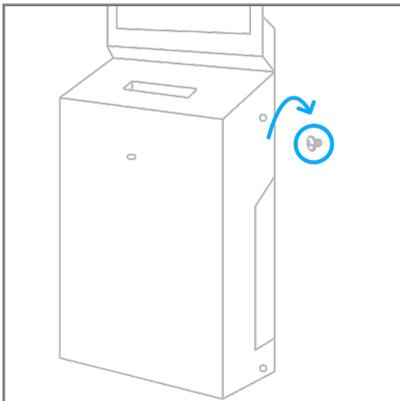

Figure 13.
Step 3: Carefully hang the Swift UV on the two upper screws taking care to align them with the two mounting points on the back of the Swift UV (Figure 13).